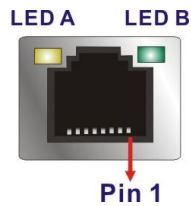

Figure 3-31: LAN LED Location
- CN Location:** See **Figure 3-31**